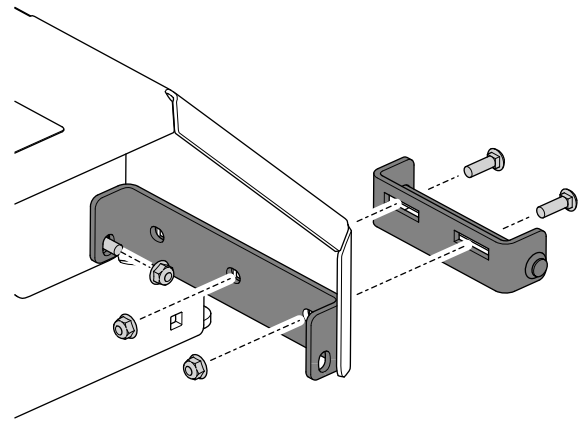

Figure 5
1. Secure the lower mounting plates to the machine using 2 bolts (5/16-18 x 1 inch) and 2 nuts (5/16-18 inch). For the Snowrator only, use the single nut and bolt attached to the inside of the fender as well (Figure 5).